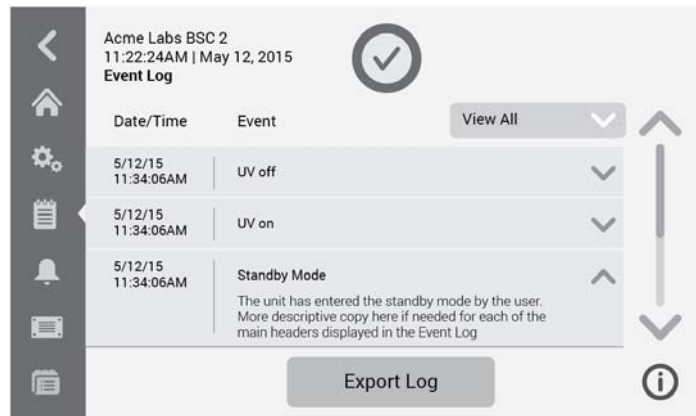

Figure 95 Event Log Screen: Standby Mode Expanded
The Event Log screen shown in Figure 95 appears.
3. Tap on any list item in the Event Log to expand it and view more detailed information, as shown for the Standby Mode item in Figure 95.